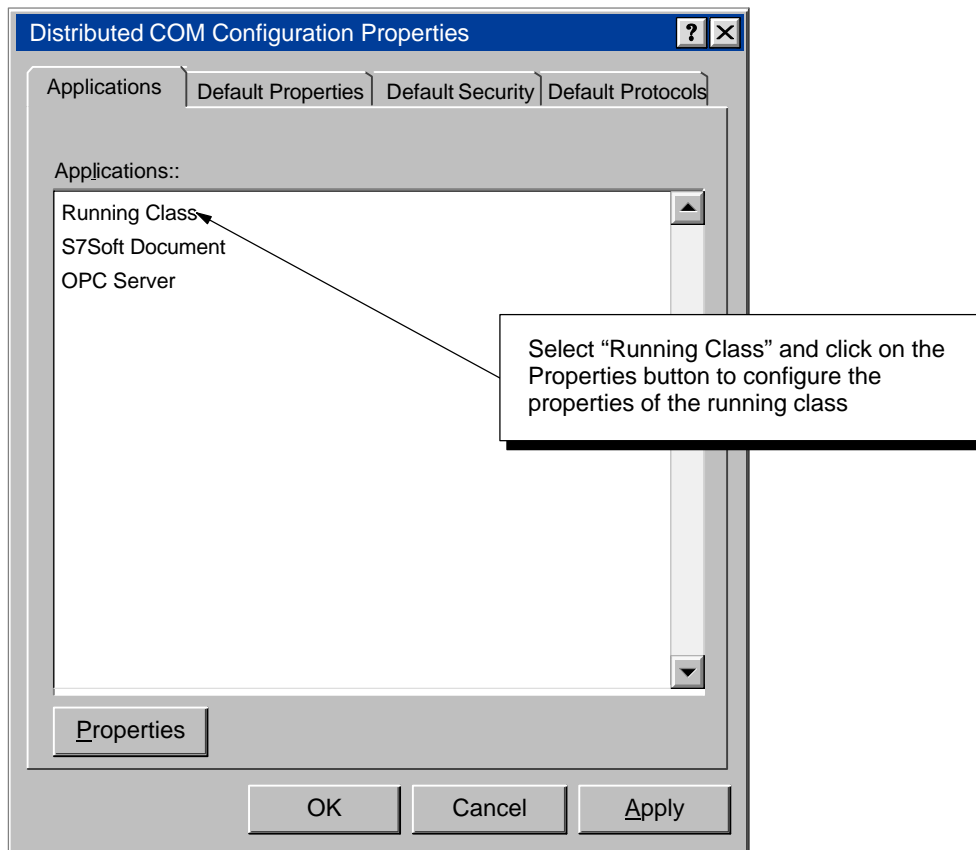

Figure D-8 Selecting the Running Class for DCOM
1. Click on the Applications tab of the Distributed COM Configuration Properties dialog box. See Figure D-8.
You do not configure the running class properties for the client computer. You define the running class on the server computer. See Figure D-8.